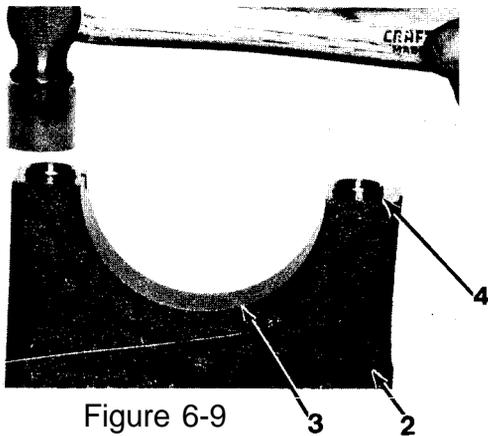
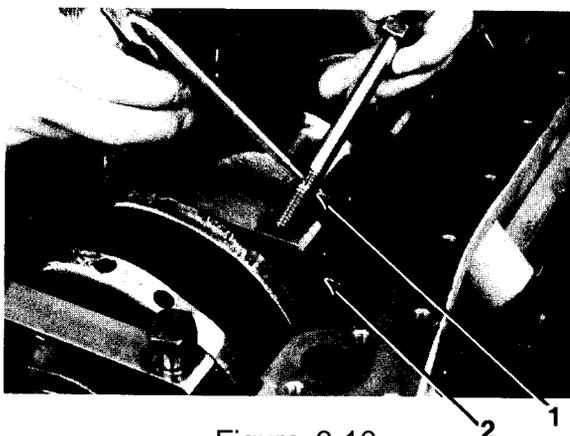

Figure 6-9 3 2 4
Figure 6-10 2 1
5. Install 10 ring dowels (4) on 5 main bearing caps (2, Figure 6-9).
6. Install five lower bearings (3).
7. Lubricate 5 lower bearings (3) with lubricating oil DOD-L-25681.
8. Lubricate threads and undersides of heads of 10 capscrews (1, Figure 6-10) with engine oil.
9. Install 5 main bearing caps (2) and 10 cap-screws (1).